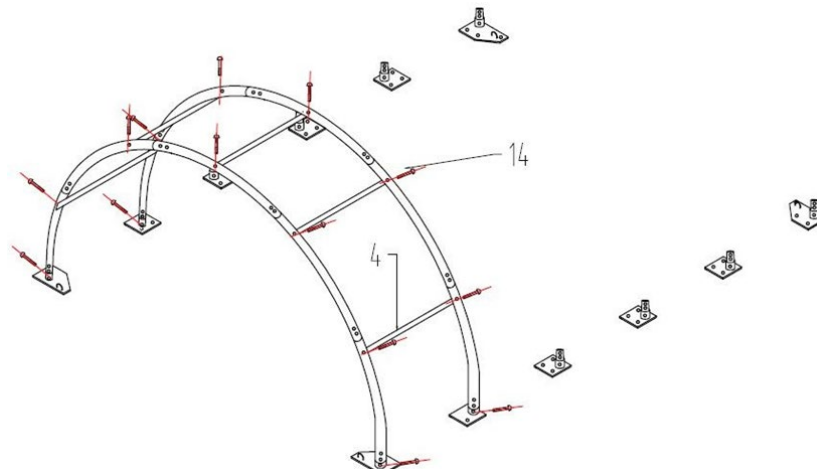

Figure 7
2. Install the second arch in the same manner immediately after installing the first arch, and connect the two arches using purlins (component code 4). Secure the purlins using M10 X 100 mm carriage bolts (component code 14), as shown in *Figure 7*.